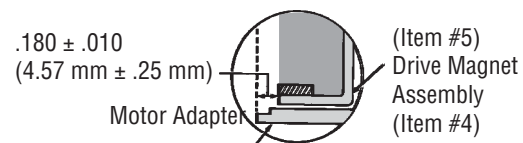

Figure 1
magnet assembly (item 5) onto motor shaft keeping shaft key in place. Installation dimension from front of drive magnet assembly to face of motor adapter is $.180 \pm .010$ inches ($4.57 \text{ mm} \pm .25 \text{ mm}$). Tighten 2 set screws (item 5A) with a 3/16" "T" handle Allen wrench to 228 in-lbs (25.8 N-m). A spacing tool is available for setting proper dimension (p/n A103188). See Figure 1.